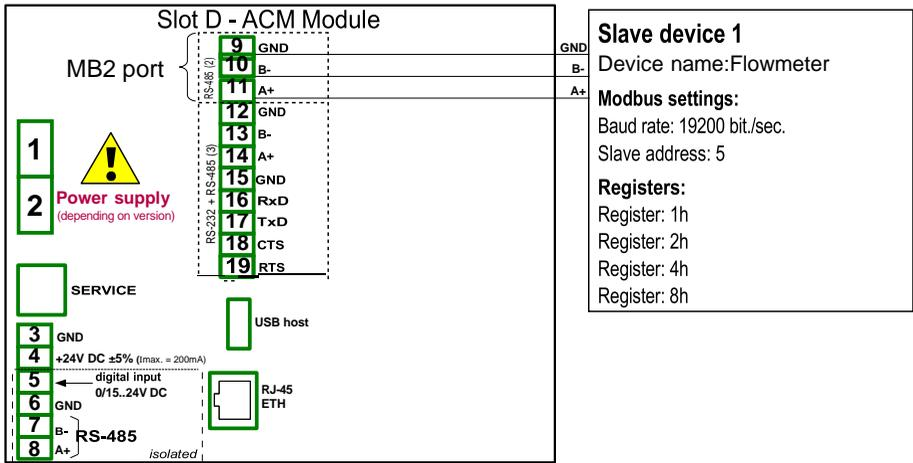

Fig. 7.154. Connection diagram for the Modbus MB2 port
First we need to configure the device according to the following recommendations, then connect the device in according with **Fig. 7.154**.
- using the arrows in the upper right corner choose **Port number: 1 (MB1)** in accordance with **Fig. 7.154**,